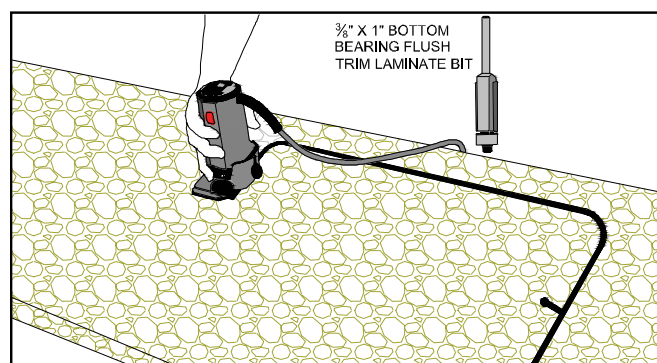

Figure 6D
- Use a laminate trim router with a  $\frac{3}{8}$ " bottom bearing flush trim bit, route around the inside of the sink cutout. (FIG. 6D)